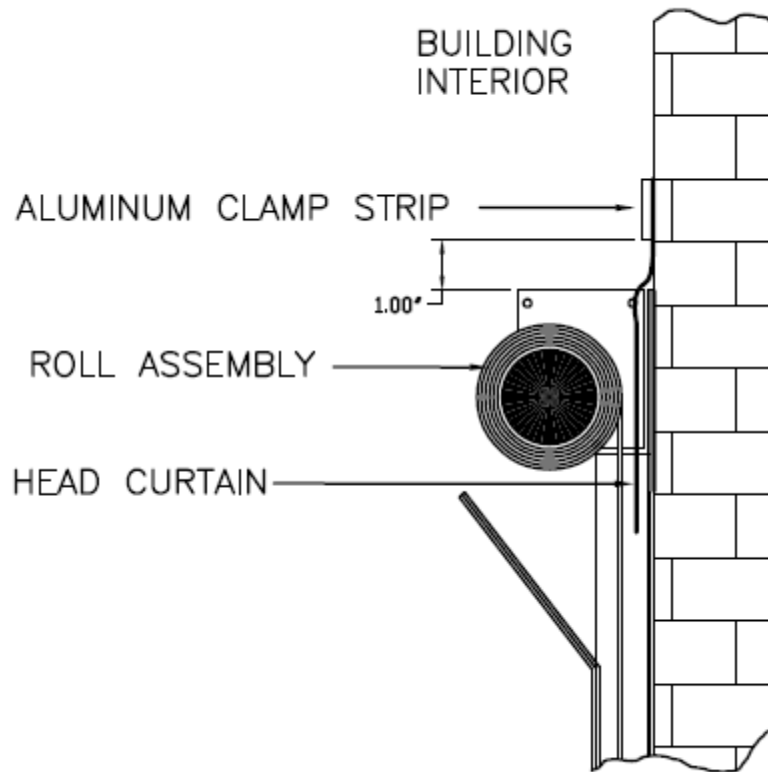

FIGURE 4
17. Mount the header curtain to the wall with the aluminum clamp strip provided. Make sure the curtain hangs down in the track against the back of the roll assembly. Mount the clamp strip with 10 x 3/4 screws provided in every other hole so that the top of the clamp strip is located 1" above the top of the roll assembly. The Gateway logo should face the building exterior. (See Fig. 4).